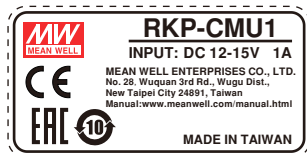

Figure 1-1 Safety Label of RKP-CMU1
- ⊙ Please refer to the safety label on top of each unit before operating (Figure 1-1~1-3).